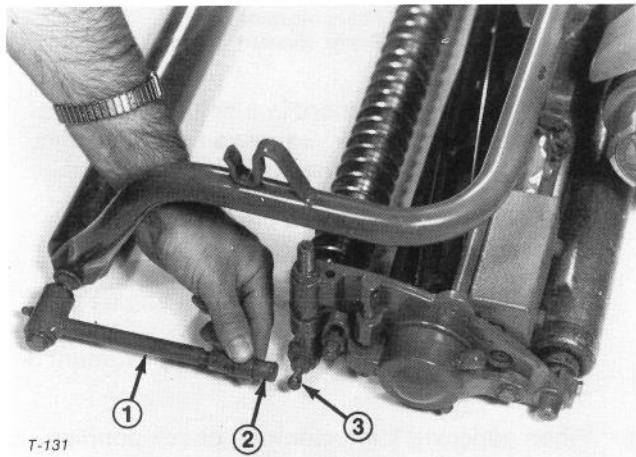

Figure 27
1. Slide sleeves back on pull arm ball joints and lift pull arm sockets straight up off ball studs (Fig. 27).
3. Align pull arms with ball studs, slide sleeves back on sockets and drop arm sockets down on ball studs (Fig. 27).